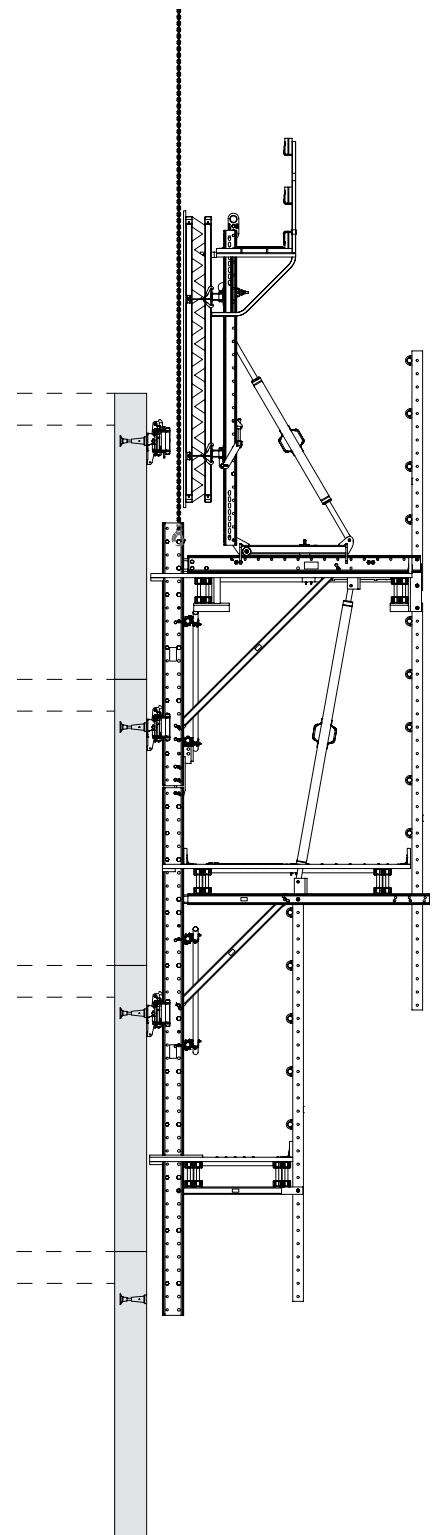

Fig. B6.03
- when attached to the Climbing Rail with 2x Crane Eye BR-2 2.5 t (8), total max. 5 t,
- when attached directly to the spacers in the Climbing Rails 2 x 5t, total max. 10 t (Fig. B6.03)